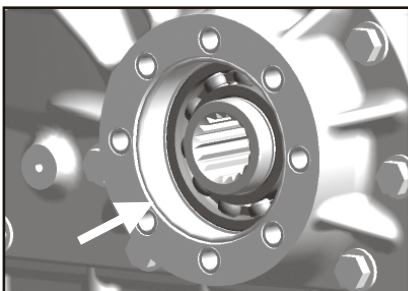

Fig. 3
4. Install O-Ring, furnished with P.T.O., (Fig.3). To prevent damage to O-Ring make sure it is installed in groove as shown.